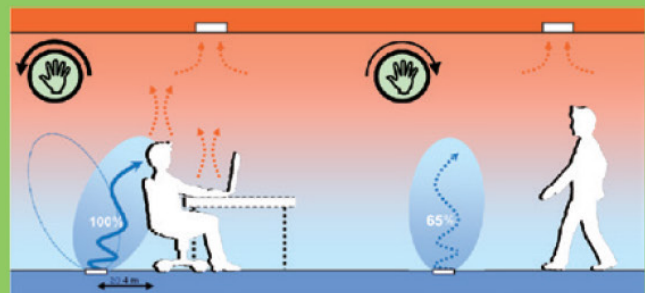

Figure 6
- **Option “IV = Inclined-Vertical”** (figure 6)
- Includes items 4 to 10 above.
- Optional Configuration "IV" (figures 6): User adjustable discharge direction. Combined user-adjustable air pattern and airflow rate.
- Includes items 4 to 11 above.